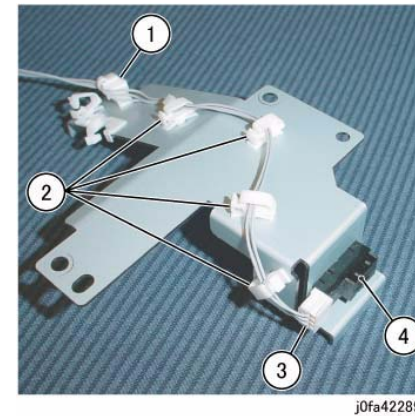

Figure 5 Removing the Stack Height Sensor
- (1)Release wires from Clamps (5)
- (2)Disconnect the Connector
- (3)Remove Screws (7)
- (4)Remove the Stacker Tray
11. Remove the Stack Height Sensor (Figure 5):